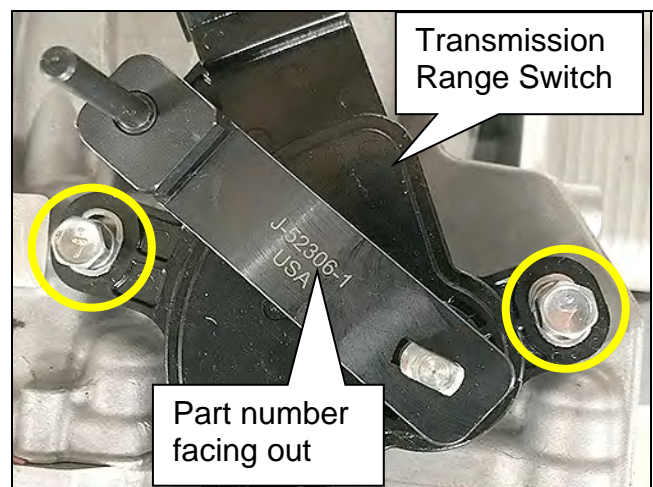

Figure 3V
- b. Attach the combined alignment tool onto the manual shaft as shown in Figure 3V with part number facing out.
- c. Install the two original bolts for the transmission range switch (Figure 3V).